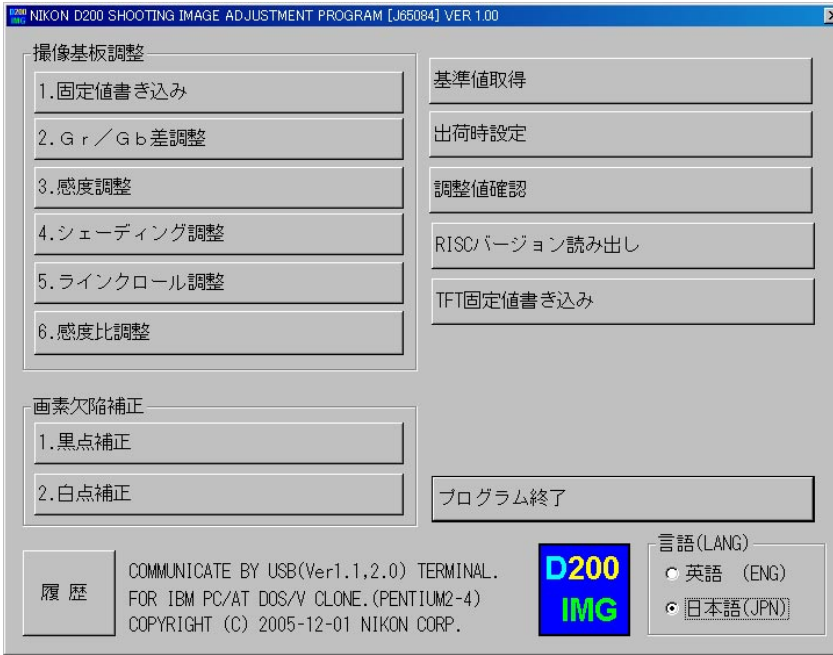

Fig.2
- (2) Select ENGLISH / JAPANESE in Language to display the expected menu. (ref. Fig.2)
- (3) Click the button to start adjustments.
- ※ When the adjustments from 2. to 6. are made, calculate to get the "Sensitivity" and "Sensitivity ratio" reference values of (7) by using the reference body beforehand, then perform the adjustments.
- (4) Follow the instructions on screen.
- (5) To complete the procedure, click "QUIT" button or "Close" button at the upper-right corner of the menu.